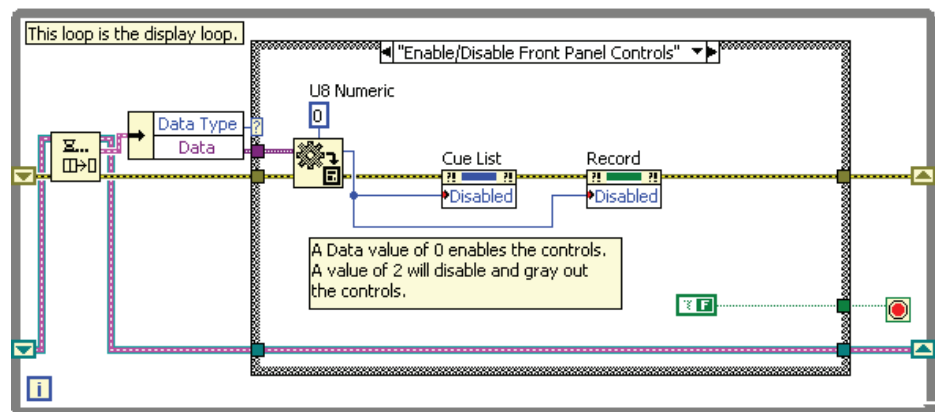

Figure 7-7. Enable/Disable Front Panel Controls Case
1. Modify the Enable/Disable Front Panel Controls case as shown in Figure 7-7. Use the following items: